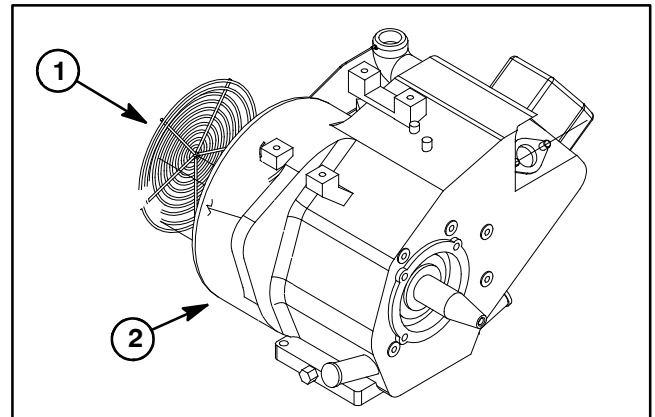

Figure 4
5. Clean static debris screen and blower housing of dirt and debris. Remove screen and housing if necessary (Fig. 4).